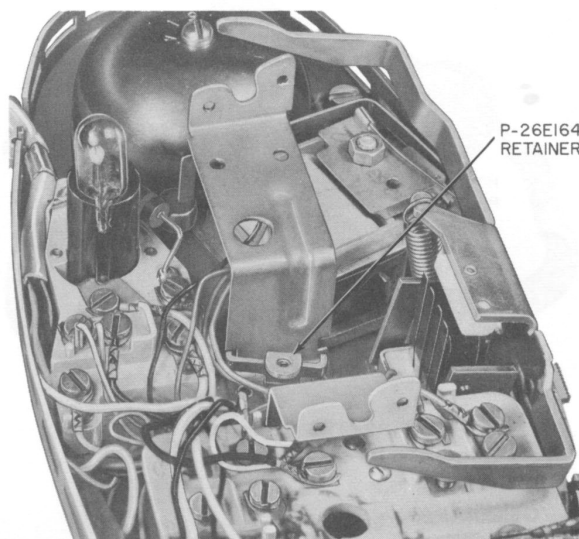
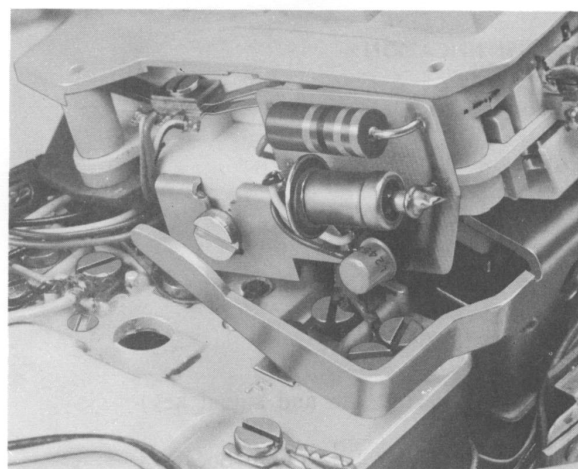

Fig. 2—Installing Terminal Board Retainer in PRINCESS Telephone Set
Fig. 3—Polarity Guard Mounted in PRINCESS Telephone Set
- (1) Remove housing; loosen dial mounting screws and move the dial to one side without disconnecting the dial leads.
- (2) Insert the P-26E164 retainer in left-hand dial mounting bracket (Fig. 2).
- (3) Insert tabs of P-21F675 terminal board into notches in right-hand dial mounting bracket and secure to retainer using P-43A392 screw.
- (4) Connect polarity guard in accordance with Table A.
(5) Reinstall dial on mounting bracket, securing the P-90D054 guard assembly mounting bracket under the right-hand dial mounting screw (Fig. 3).
(6) Reinstall housing.